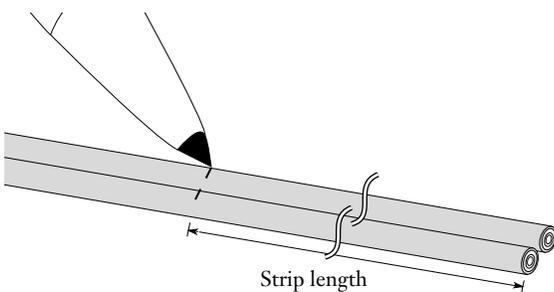

Figure 11
5.1 Measure and mark the required strip length on the jackets of the two 2.9 mm subunits (Figure 11).